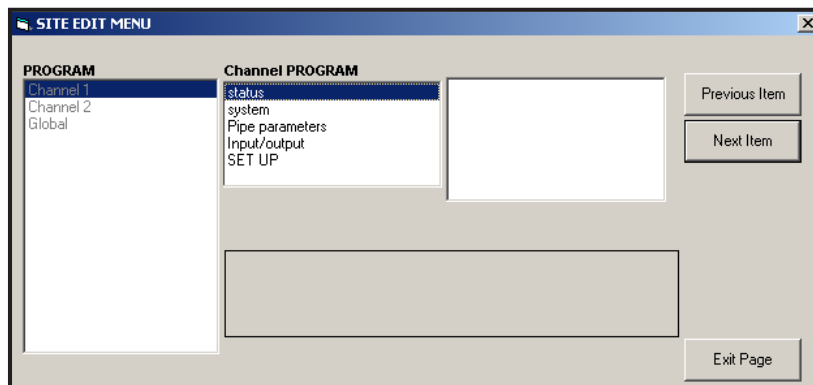

Figure 41: *Site Edit Menu* Window
3. To enter data into the user program, double-click on the *Site Edit Menu*. The window appears similar to Figure 41.
4. To enter a particular menu (Channel 1, Channel 2, or Global), highlight and double-click on the desired menu in the left pane. For example, clicking on Channel 1 in Figure 41 opens the list of options shown in the center pane.
PanaView returns to the Channel PROGRAM menu (see Figure 41 on page 89). Proceed to the System option.
- If you are not using MASS FLOW, PanaView returns to the Channel PROGRAM window shown in Figure 41 on page 89. Proceed to the Pipe option.
PanaView returns to the Channel PROGRAM window shown in Figure 41 on page 89. Proceed to the Pipe option on the next page.